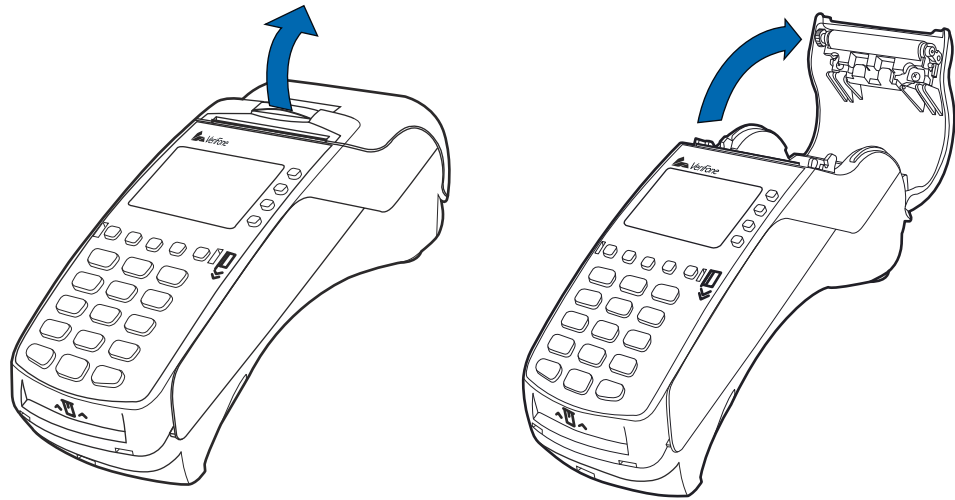

Figure 8 **Opening the Printer Cover**
- 1 Hook your finger under the latch and lift up to swing the paper roll cover open (see Figure 8).